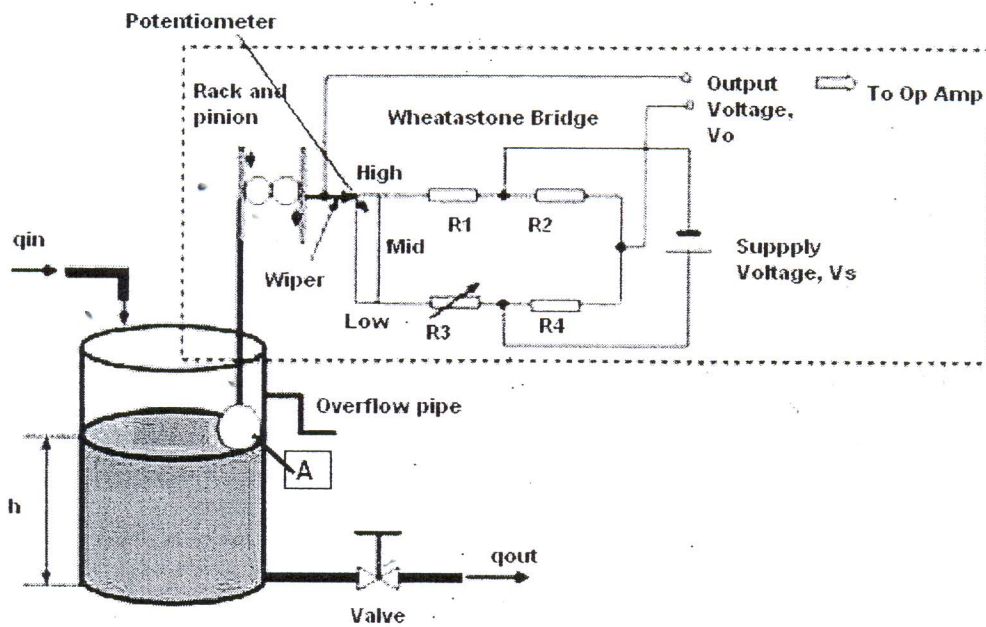

Figure 6: Tank Level System Control
(b) **Figure 6** shows Wheatstone bridge application with tank level transmitter system.
- i. State type of level sensor A used in **Figure 6** (2 marks)
- ii. If the Wheatstone bridge, as shown in **Figure 6**, nulls with $R_1 = 1000 \Omega$, $R_2 = 842 \Omega$ and $R_3 = 500 \Omega$, find the value of R_4 (3marks)